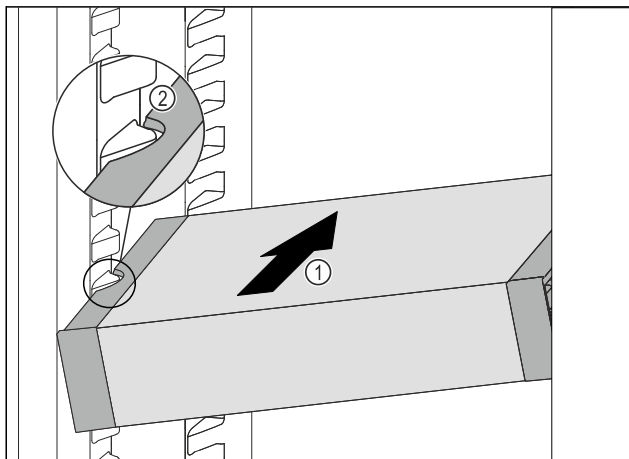

Fig. 176
- Insert the VarioSafe into the fridge section at an angle Fig. 176 (1) until the recesses in the side Fig. 176 (2) of the VarioSafe are at the level of the support rib in the fridge section.